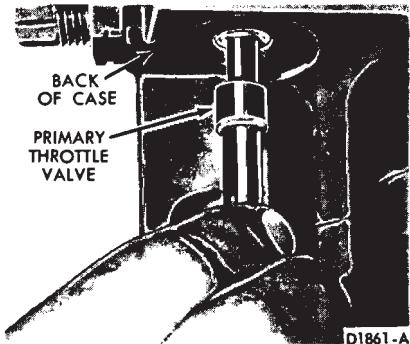

FIG. 28—Removing or Installing Primary Throttle Valve—C4 Automatic
3. On a C4 automatic transmission, remove the primary throttle valve (Fig. 28) from the opening at the rear of the case.